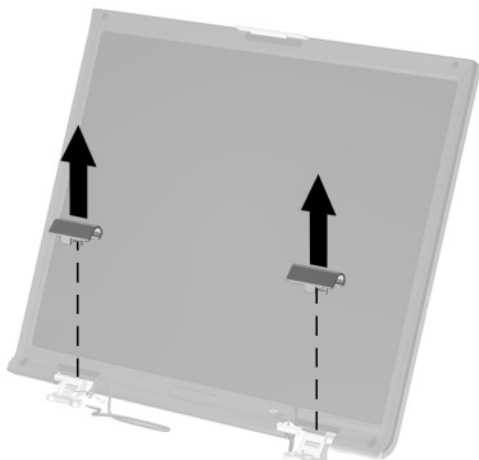

Figure 5-25. Removing the Display Hinge Covers
11. If necessary, remove the display hinge covers by pressing up on the bottom of the covers from behind the display assembly (Figure 5-25). Note that the hinge covers are not interchangeable.